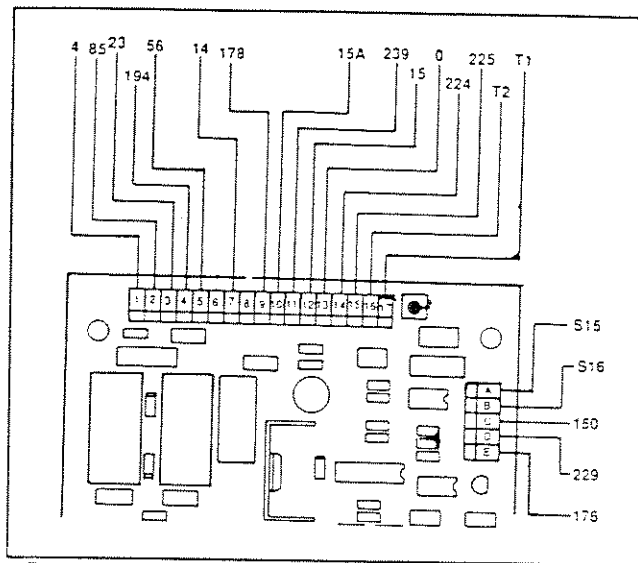

Figure 6. Check Circuit Board Power Input and Output
1. See Figure 6. Connect the positive (+) test lead of a DC voltmeter (or a VOM) to terminal 4 of the auto-off-manual switch.